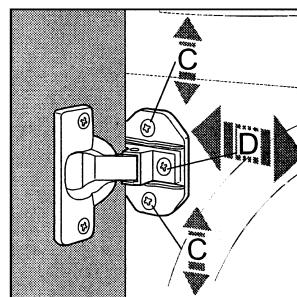

Fig.9
- To adjust the position of the wooden panel in both the vertical and horizontal directions, use the **C** and **D** screws, as shown in Fig.9.